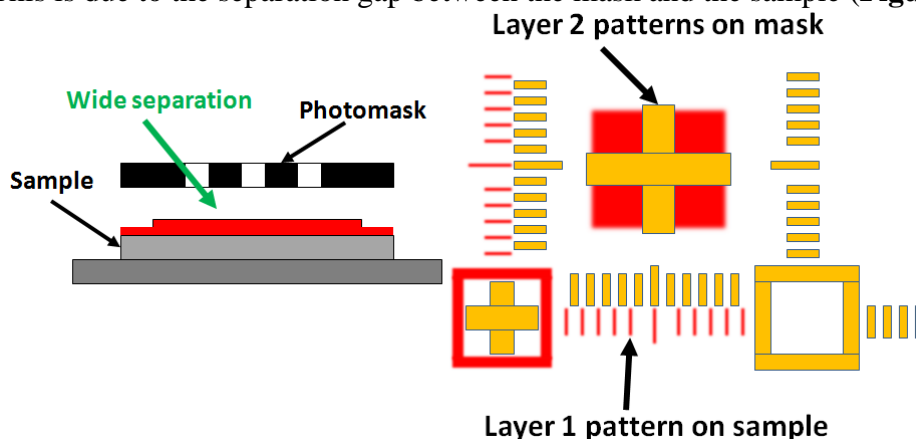

Figure 17 Wide separation between the mask and sample. The patterns on the sample are fuzzy due to the large difference in the depth of focus.
- i) Typically, the alignment marks on the mask will be in focus, while the patterns on the sample will be out of focus. This is due to the separation gap between the mask and the sample (**Figure 17**).